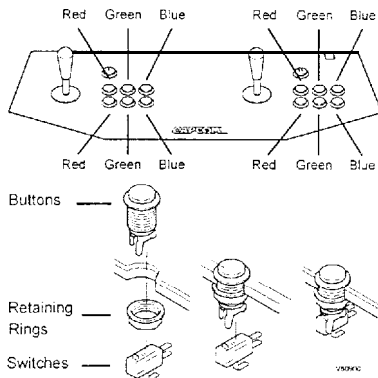

Figure 4: Control Panel Buttons and Switches
19. Install the switches on the buttons as shown in figure 4. Orient the switches so that when a button is pressed, the plastic contact on the switch is depressed.